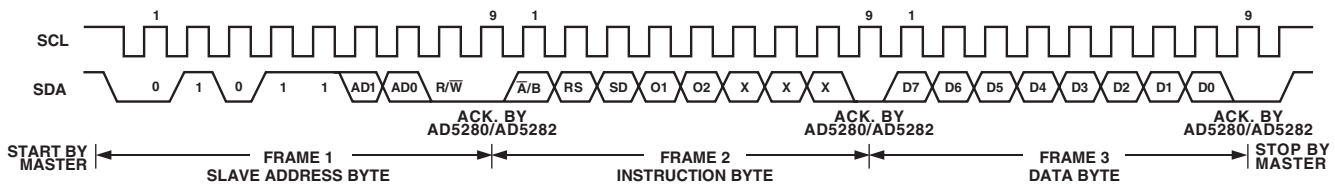
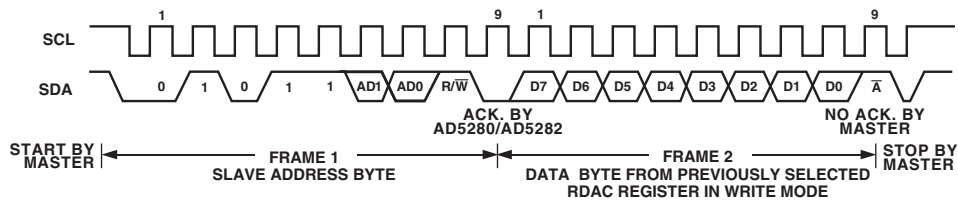

Figure 2. Writing to the RDAC Register
Figure 3. Reading Data from a Previously Selected RDAC Register in Write Mode
Referring to Figures 2 and 3, the first byte of AD5280/AD5282 is a Slave Address Byte. It has a 7-bit slave address and an  $R/\overline{W}$  bit. The 5 MSBs are 01011 and the following two bits are determined by the state of the AD0 and AD1 pins of the device. AD0 and AD1 allow the user to place up to four of the I2C compatible devices on one bus.
1. The master initiates data transfer by establishing a START condition, which is when a high-to-low transition on the SDA line occurs while SCL is high (see Figure 2). The following byte is the Slave Address Byte which consists of the 7-bit slave address followed by an  $R/\overline{W}$  bit (this bit determines whether data will be read from or written to the slave device).
The following two bits are O1 and O2. They are extra programmable logic outputs that can be used to drive other digital loads, logic gates, LED drivers, analog switches, and so on. The three LSBs are Don't Care (see Figure 2).
3. After acknowledging the Instruction Byte, the last byte in Write Mode is the Data Byte. Data is transmitted over the serial bus in sequences of nine clock pulses (eight data bits followed by an Acknowledge bit). The transitions on the SDA line must occur during the low period of SCL and remain stable during the high period of SCL (see Figure 2).
4. In the Read Mode, the Data Byte follows immediately after the acknowledgment of the Slave Address Byte. Data is transmitted over the serial bus in sequences of nine clock pulses (a slight difference with the Write Mode, where there are eight data bits followed by an Acknowledge bit). Similarly, the transitions on the SDA line must occur during the low period of SCL and remain stable during the high period of SCL (see Figure 3).
5. When all data bits have been read or written, a Stop condition is established by the master. A Stop condition is defined as a low-to-high transition on the SDA line while SCL is high. In Write Mode, the master will pull the SDA line high during the tenth clock pulse to establish a Stop condition, (see Figure 2). In Read Mode, the master will issue a No Acknowledge for the ninth clock pulse (i.e., the SDA line remains high). The master will then bring the SDA line low before the tenth clock pulse, which goes high to establish a Stop condition (see Figure 3).
AD5280/AD5282 allows the user to read back the RDAC values in the Read Mode. However, for the AD5282 dual-channel device, the channel of interest is the one that is previously selected in the Write Mode. In the case where users need to read the RDAC values of both channels in AD5282, they can program the first subaddress in Write Mode and then change to Read Mode to read the first channel value. After that, they can change back to Write Mode with the second subaddress and finally read the second channel value in Read Mode again. Note that it is not necessary for users to issue the Frame 3 data byte in Write Mode for subsequent readback operation. Users should refer to Figures 2 and 3 for the programming format.
AD5280/AD5282 features additional programmable logic outputs,  $O_1$  and  $O_2$ , which can be used to drive a digital load, analog switches, and logic gates.  $O_1$  and  $O_2$  default to Logic 0. The logic states of  $O_1$  and  $O_2$  can be programmed in Frame 2 under the Write Mode (see Figure 2). These logic outputs have adequate current driving capability to sink/source milliamperes of load.